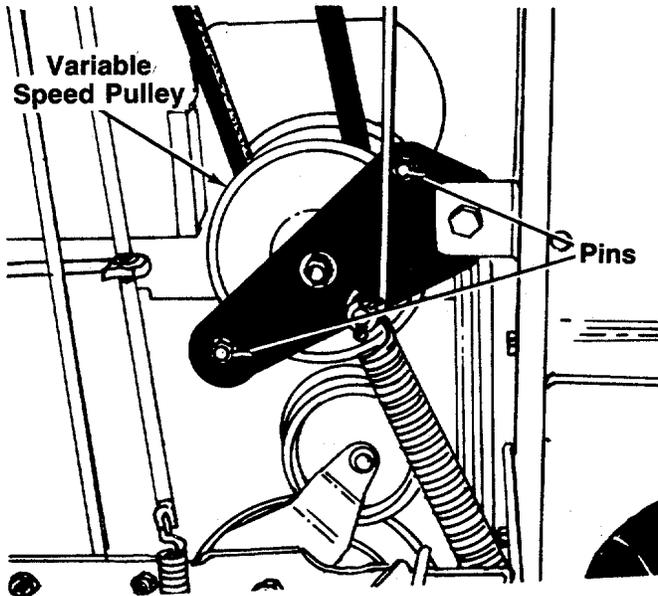

**FIGURE 22.**
6. Remove the engine pulley belt guard by slipping it back and to the right. See figure 22.